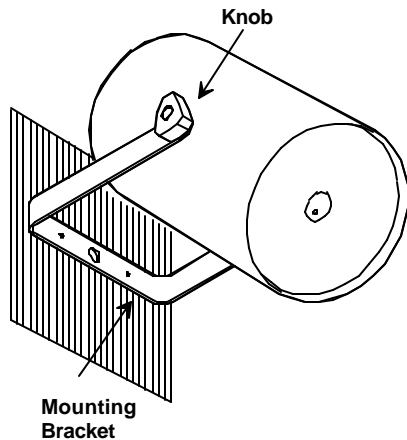

FIGURE 1
3. Attach knobs and position at the desired angle. Tighten knobs (See Figure 1).